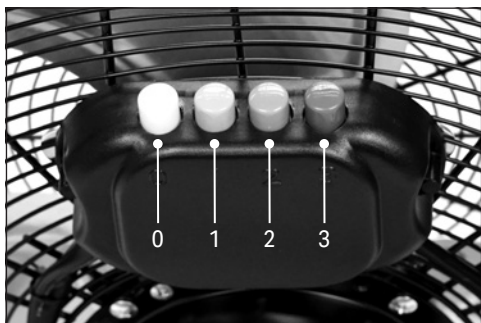

Fig.1
5.1 Speed Control Selection (Fig.1)